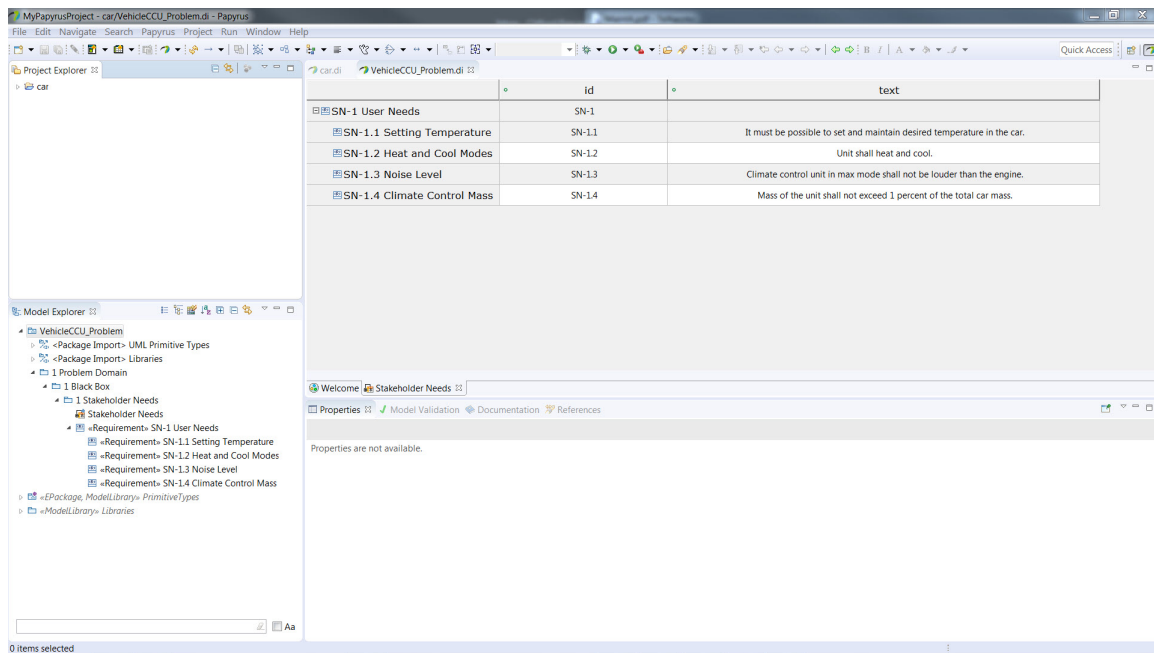

Figure 15: Requirements Tree
8. In the *Model View* window Left-click on the requirement *SN-1.1 Setting Temperature* requirement then hold down the Control key and select the last requirement *SN-1.4 Climate Control Mass*. Drag these requirements and drop them on the *SN-1 User Needs* to make these requirements child requirements of our heading requirement. Your screen should look like figure 15 with the requirements nested under *SN-1 User Needs* in the *Model View* window and a tree structure in the table view.